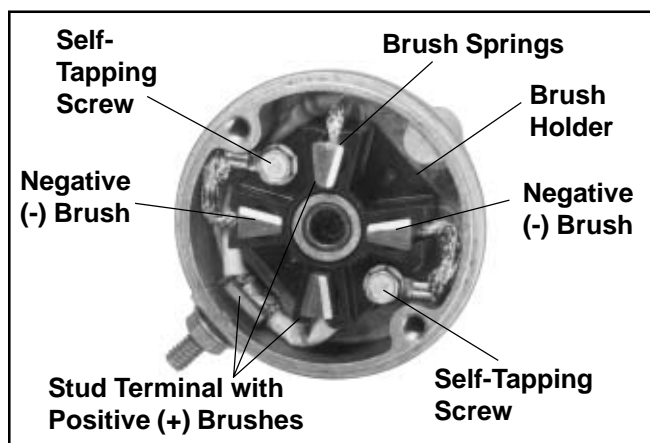

Figure 8-35. Style "A" Commutator End Cap with Brushes.
1. Remove the brush springs from the pockets in the brush holder. See Figure 8-35.